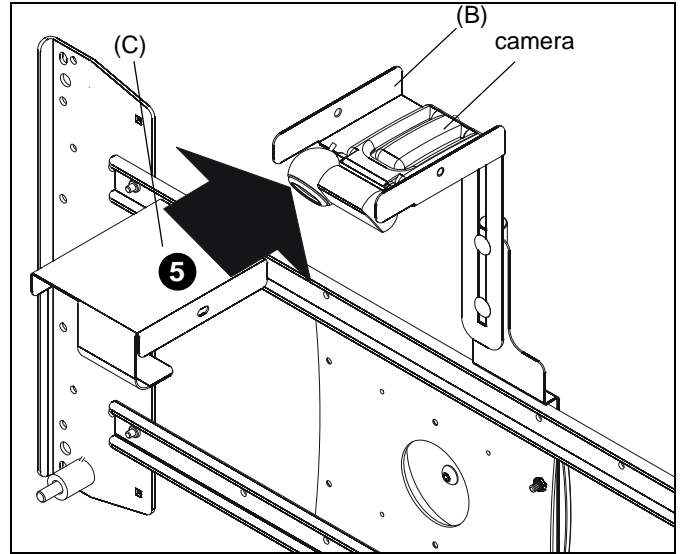

**Figure 8**
screws (K) through camera extension bracket (E) and into JWP mount. (See Figure 8)